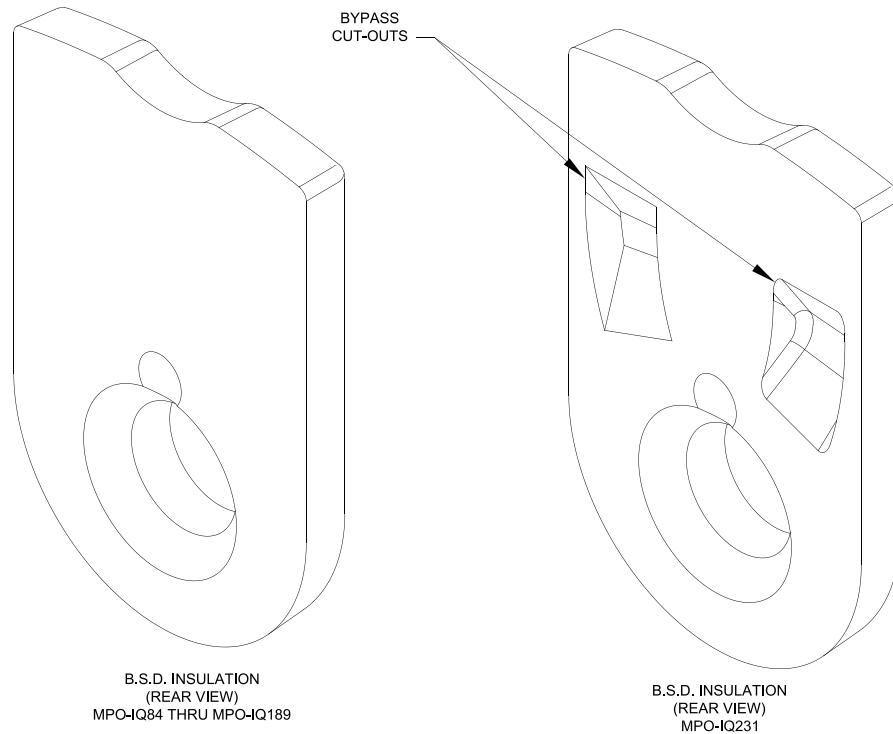

Figure 4D: Burner Swing Door Insulation
3. Inspect burner swing door insulation for damage and proper type, refer to Figure 4D.
- b. By design, door insulation on model MPO-IQ231 will have two (2) by-pass pockets cast into the insulation centered on the bar between the combustion chamber and 3rd pass flueways. On models MPO-IQ84 thru MPO-IQ189 these pockets should not be present. If insulation is damaged or not of proper type regarding pockets, it must be replaced.